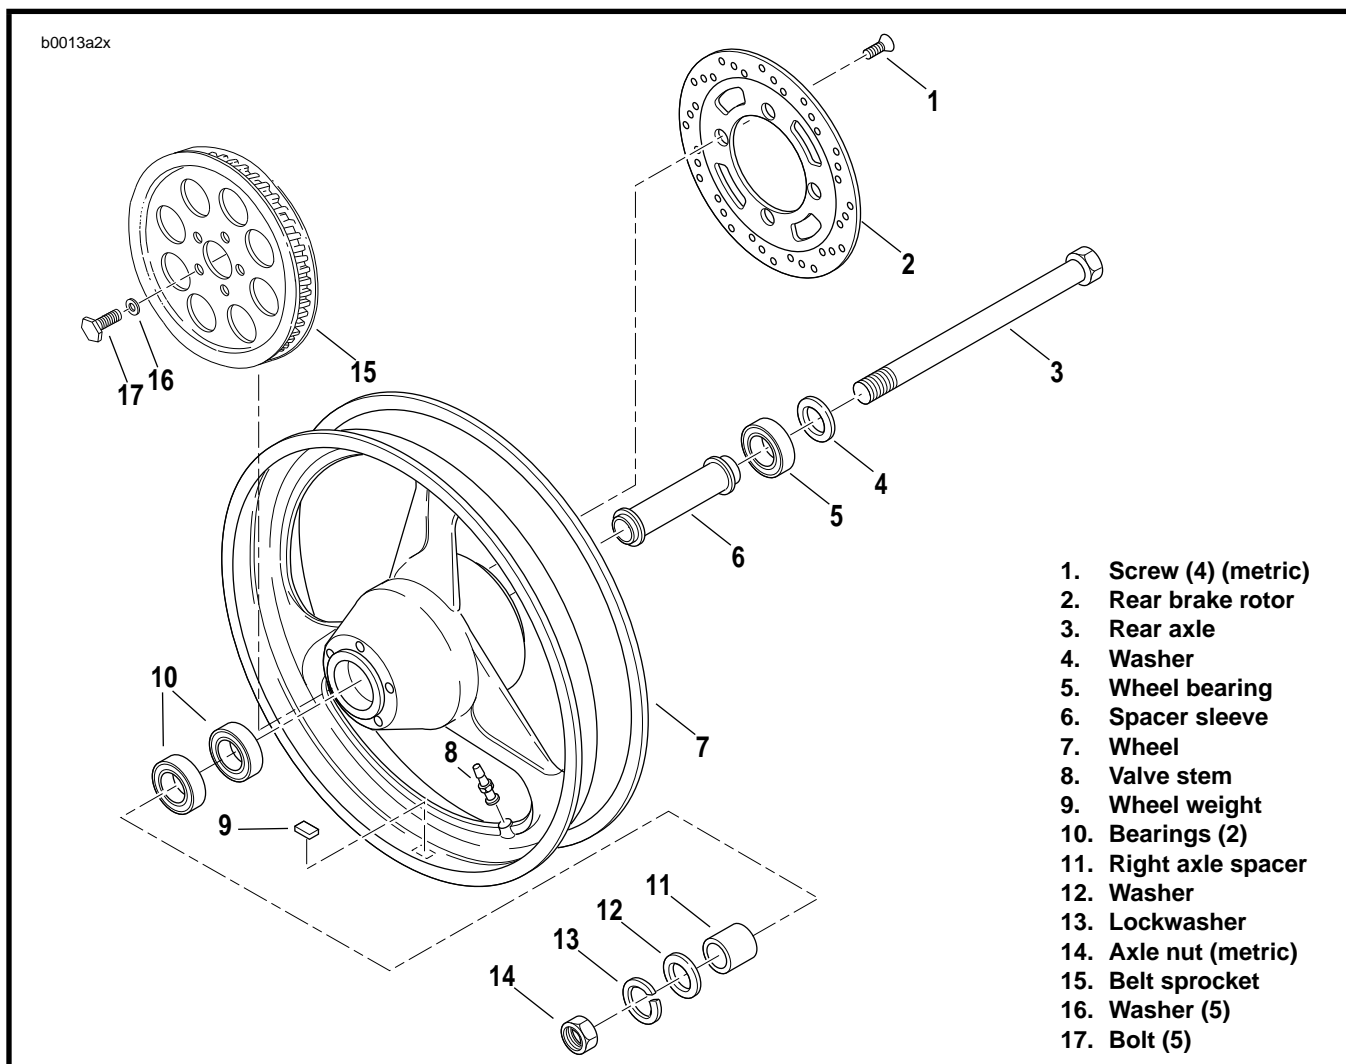

Figure 2-9. Rear Wheel
7. See Figure 2-9. Remove rear axle nut (14) (metric), lock-washer (13), and washer (12). Pull axle (3) and washer (4) out from left side and remove wheel.
3. See Figure 2-9. Remove four screws (1) (metric) to remove rear brake rotor (2) from hub.
4. Remove five bolts (17) and washers (16) on belt sprocket (15). Remove belt sprocket from wheel.
1. See Figure 2-9. Verify that brake rotor (2) is thoroughly clean. Apply LOCTITE THREADLOCKER 242 \(blue\) to each screw (1) (metric). Fasten rotor to hub with four screws. Tighten to 35-40 ft-lbs (47.5-54.2 Nm).
2. See Figure 2-9. Apply LOCTITE ANTI-SEIZE LUBRICANT to axle (3).
3. Insert axle (3) through washer (4), left side of swingarm, rear brake caliper mount, wheel assembly, spacer (11) and right side of swingarm.
4. Install washer (12), lockwasher (13), and axle nut (14) (metric) on right side of axle. Do not fully tighten rear axle nut at this time.
7. Tighten rear axle nut (14) (metric) to 66-73 ft-lbs (89.5-98.9 Nm).